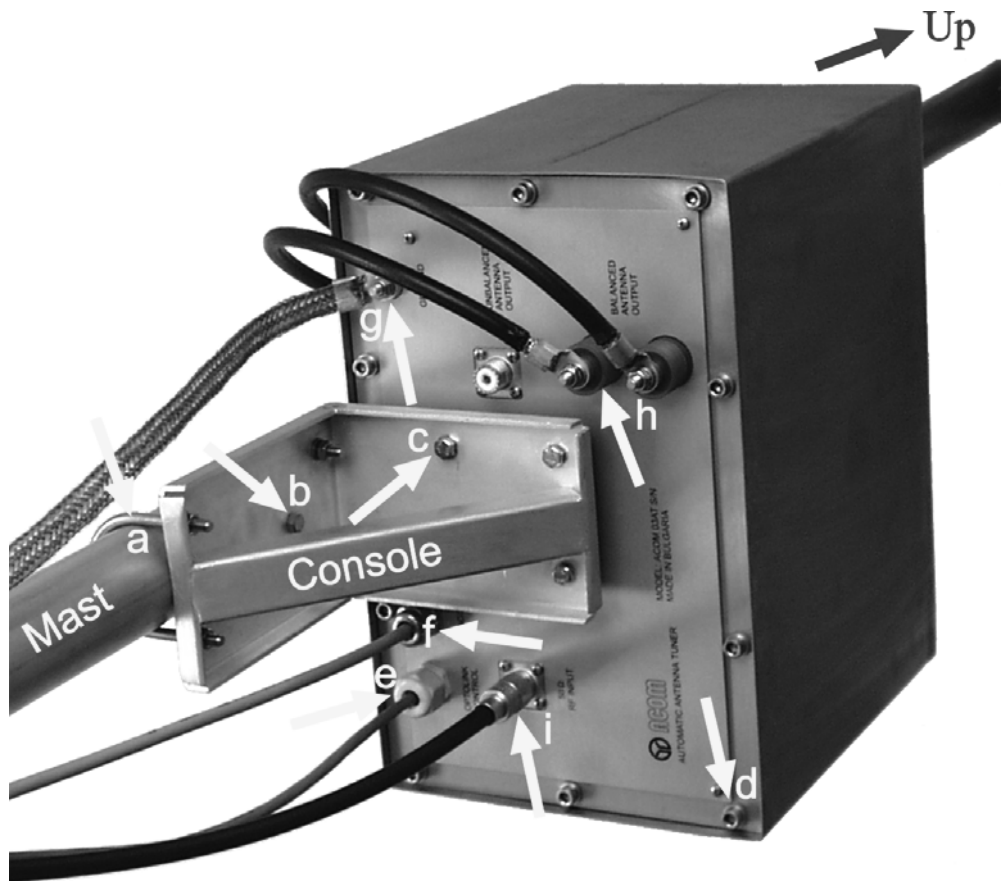
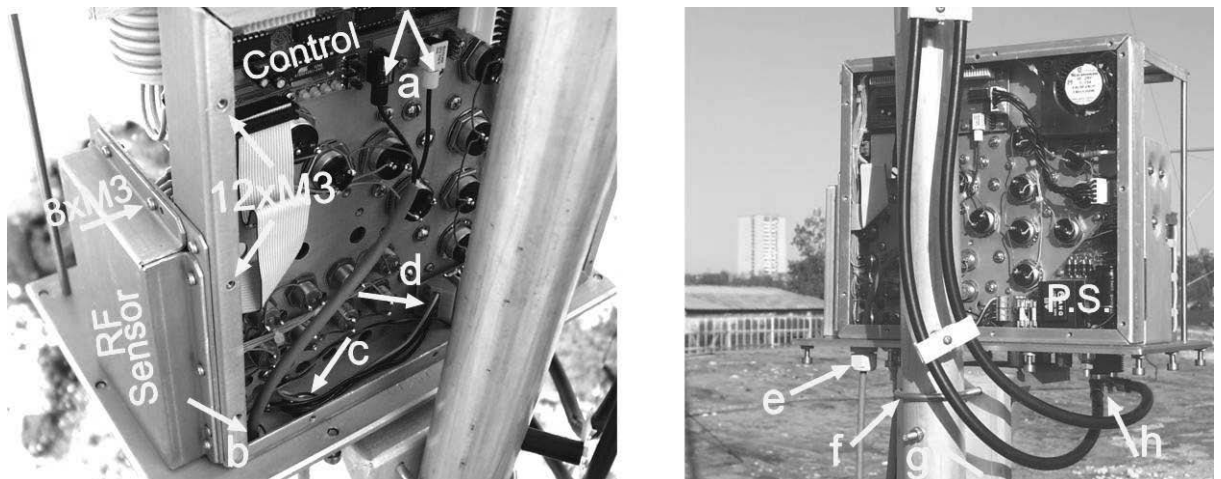
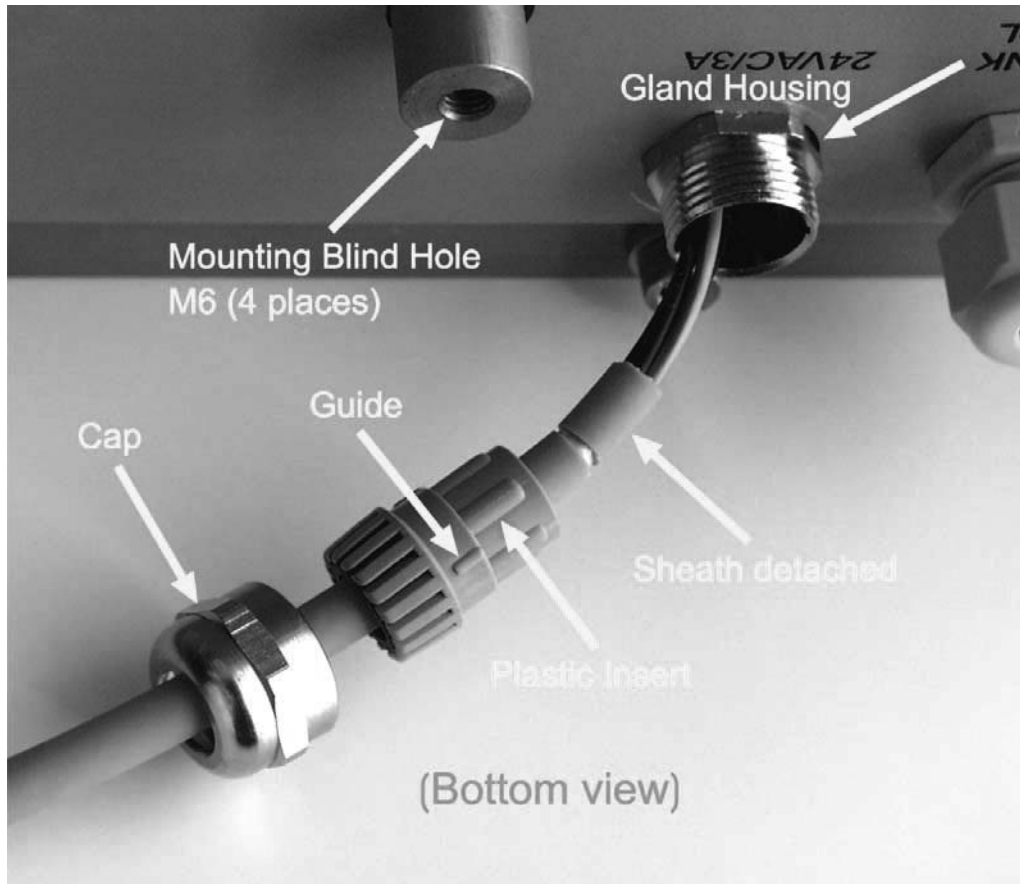

Fig.2-1. Remote AATU unit on-mast installation and cables arrangement (bottom view).
Fig.2-2. Remote unit connections
Fig.2-4 Power supply cable gland of the remote unit (bottom view).
a) Mount the AATU installation console to the antenna mast at a height at least 80cm (2.6 feet). This is needed in order that winter snow cannot reach the height of the unit. Use both U-bolts M6 and the fixing screw M6x70mm (supplied) – see fig.2-1,a,b & 2-2,f,g. Do not miss the fixing screw that avoids turning the unit around the mast.
b) Place the remote unit on the installed console and orient it with the hood head upward and the connectors downward (see fig.2-1 and 2-2). You may need an assistant for the next operation.
Settle carefully the unit onto the console and align its four installation blind holes (M6 threaded – see fig.2-4) to the corresponding console holes.
An assistant may be needed at this point to hold the unit steady while you screw in the four screws M6x16mm (fig.2-1,c) loosely. Tighten them properly using a 5mm (0,2") Allan key.
c) Using a 5mm (0,2") Allan key unscrew all 10 captive screws M6 located on the bottom panel of the unit (see fig.2-1,d). Pull the metal hood upwards carefully and remove it. Using a "Philips 1" screwdriver, unscrew all 12 M3x8mm screws that hold the rear lid of the unit. Carefully slip it off in order to get access to the Printed Circuit Boards "Power Supply" and "Control". On the "Control" PCB find the two optic devices, marked U10 and U11 on the PCB, and having knurled plastic nuts, permanently installed on their optic connectors (a split-socket type to tighten the optic-cable cores) - see fig.2-2,a & 2-3. The black-case device is the photo detector receiver while the white-case is the optic emitter. For now, as the other cable end is still not connected, it is meaningless which core to which device shall be connected. Identifying is easy on the second end at the first power on see S.2-4(c).
d) Unscrew the plastic cable-gland cap (marked "OPTOLINK CONTROL" on the bottom panel - fig.2-1,e & 2-2,e) and thread it over the optic cable in such a direction as to be able to screw it onto the same cable gland later. Push the bared optic cable end into the cable-gland hole and direct it to both optic-device apertures (fig.2-2,a-b & 2-3).
Push 2-3cm (one inch) more cable length into the cable gland (so that not to stretch the inside cable length after having it connected to the optic devices (fig.2-2,a-b) and tighten the cable-gland cap using a wrench sized 22mm (7/8”). Use only enough force while tightening in order that the cable be tight and could not slip out when pulled occasionally (do not overdo it since a cable-gland destruction is likely).
e) Unscrew the metal cable-gland cap (marked “24VAC/3A” on the bottom panel (see fig.2-1,f) and thread it over the bared end of the four-core screened power-supply cable in such a direction as to be able to screw it onto the same place later. Take out the plastic insert from the cable gland housing. Thread the insert over the cable end in such a direction, that its split end be next to the metal cap, and the slender end – to the cable bared tag (see fig.2-4).
Holding the plastic insert fixed to the cable, push all four cable cores into the gland housing and direct them towards the "Power Supply" PCB inside (fig.2-2,c-d). Use a small rotation around the insert axis in order to align its three guides to the corresponding grooves in the metal housing, then carefully shove the insert into the gland body, together with the shaped cable. Now, press the insert inwards in a manner that the back-folded braid touches the metal-housing head closely, and while holding it in this position, screw in the metal cap against stop. Finally, tighten the cap using a wrench size 20mm (25/32"). Use only enough force while tightening in order that the cable be tight and could not slip out when pulled occasionally (do not overdo in order not to damage the gland thread).
f) Inside the remote unit, direct the cable cores to both terminal pairs located on the “Power Supply” PCB, that are marked J1 & J2 (~24VAC) – see fig. 2-2,c-d and 2-6. The power supply is applied through each pair in parallel (each pair is one pole of the power supply).
Slip on the protective metal hood and lower it carefully downwards until it stops onto the bottom panel of the unit. Screw in loosely all 10 captive screws M6 (located on the bottom panel - see fig.2-1,d). Then tighten properly using a 5mm (0,2”) Allan key.
h) Connect the remote-unit grounding clamp, marked “GROUND” on the bottom panel, to the lightning-protection grounding system (see fig.2-1,g).
i) Connect the balanced antenna feeder to the terminals marked “BALANCED ANTENNA OUTPUT” on the bottom panel (see fig.2-1,l & 2-2,h). Shape its leads in an order not to permit accessing the AATU case or any grounded part of the installation.
j) Connect the RF coaxial cable to the coaxial connector marked “50Ω RF INPUT” on the bottom panel (see fig.2-1,i). Use cable type RG-213 or equivalent.